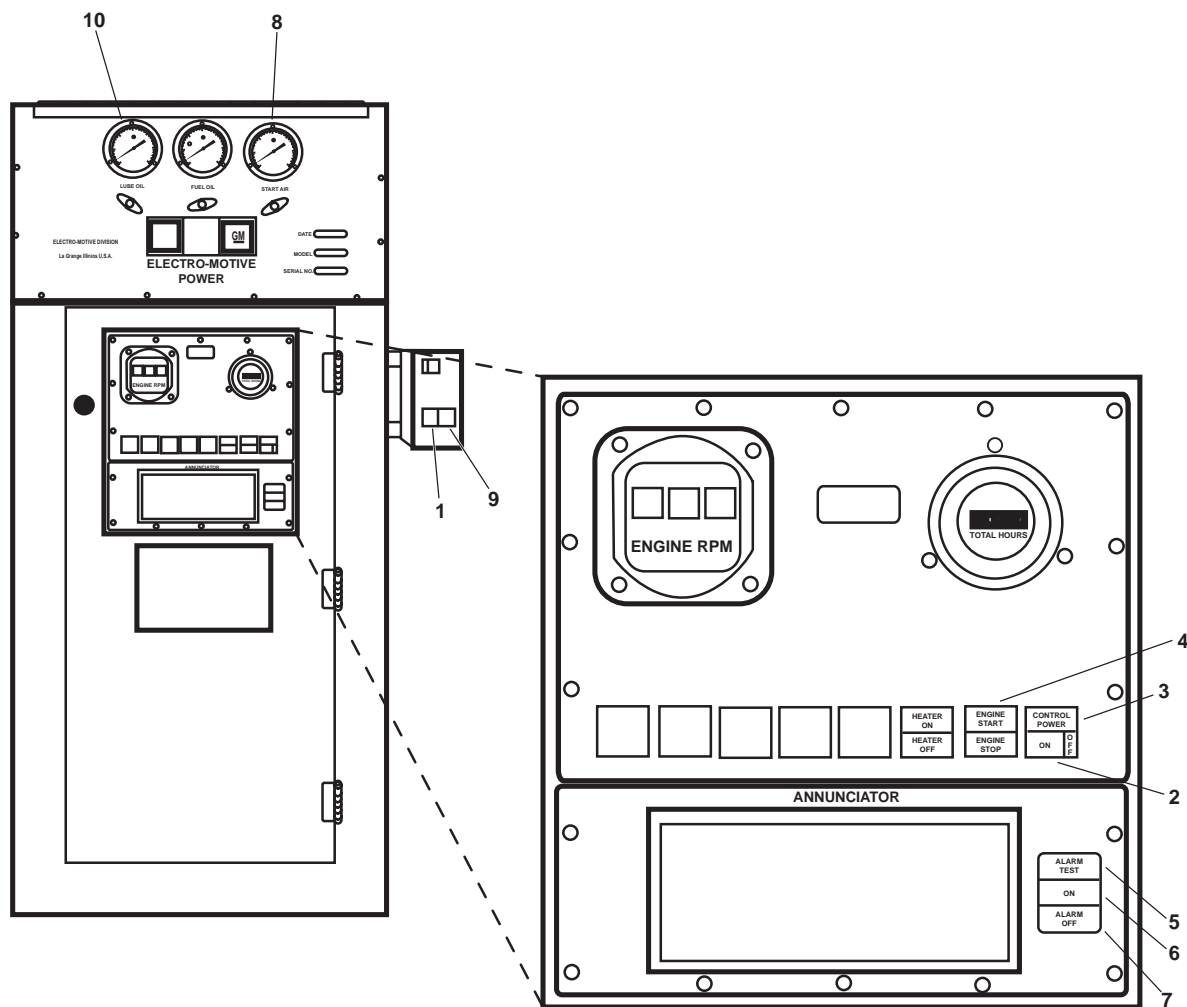

Figure 4. Starboard Main Engine Control Panel
8. PUSH the START pushbutton (figure 4, item 1) for the prelube pump.